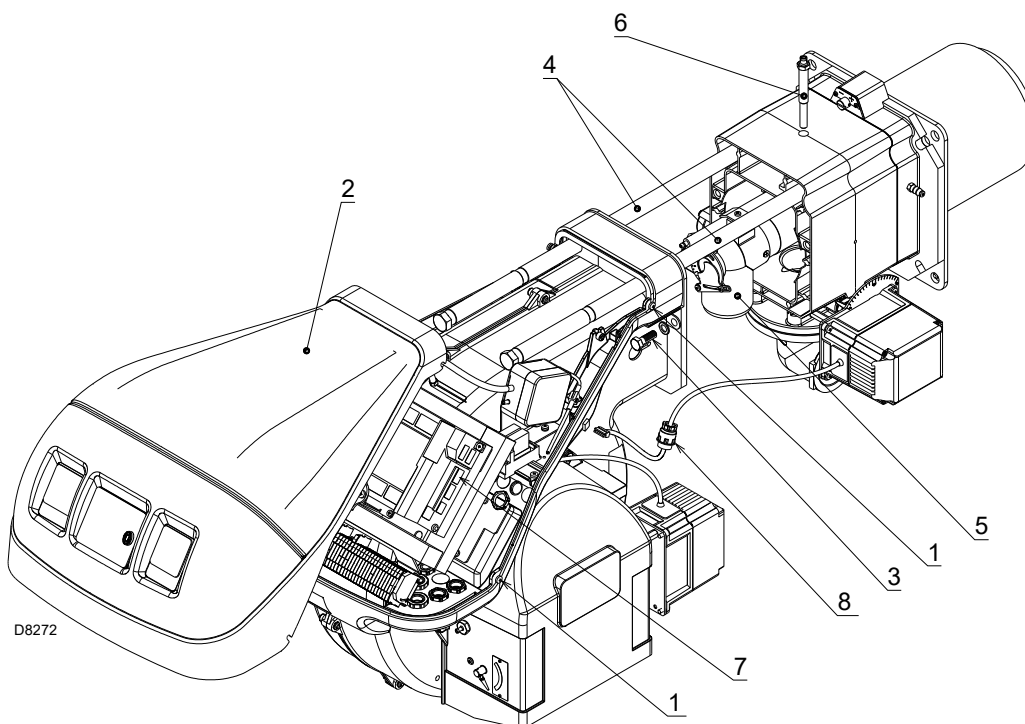

Fig. 39
Open the burner and make sure that all the components of the combustion head are undamaged, not deformed due to high temperature, free of ambient dirt or dust, free of rusted materials and adequately positioned. Make sure that the gas outlet holes for the start-up, on the combustion head distributor, are free of dirt or rust deposits. If in doubt, disassemble the elbow (Fig. 39 at page 53).
- Loosen the 4 screws 1)(Fig. 39) and remove the hood 2).